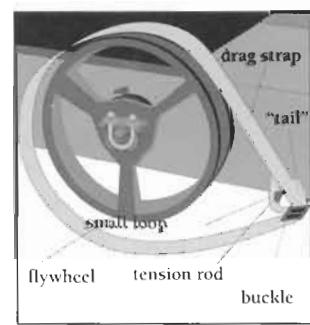

Figure 13
6. Slide the small loop of the drag strap around the tension rod. Be sure that the “tail” of the strap is toward the ceiling and that the tension rod bends upward (Figure 13).